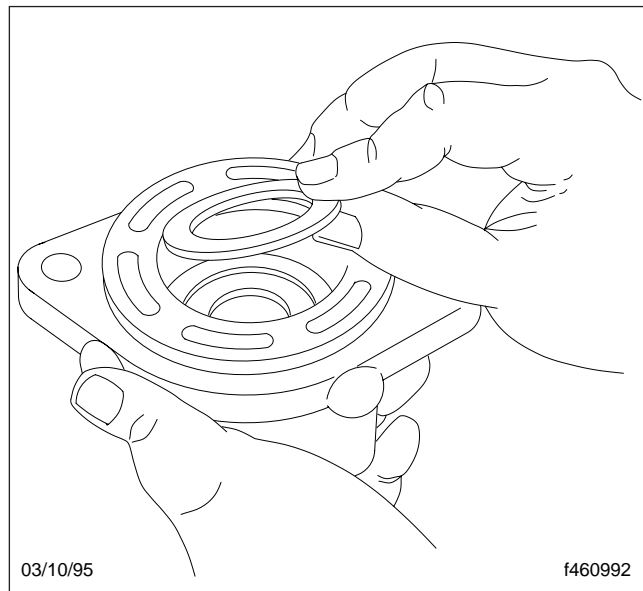

Fig. 16, Removing the Spacer
15. Remove the spacer from the cover. See Fig. 16.
3. Install the spacer. See Fig. 16. Make sure that it lies flat.